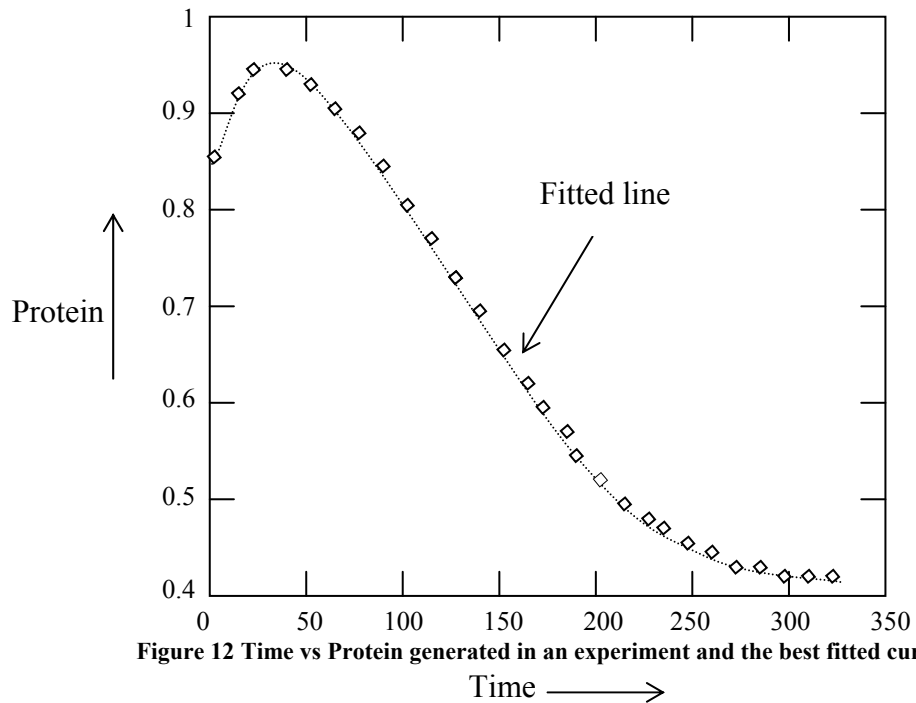

Figure 12 Time vs Protein generated in an experiment and the best fitted curve
in the Figure 12. The Figure 12 indicates that the fitted regression curve provides a very good relationship between the time and protein generated in that experiment. As before the prediction curve, that is, the curve (17) can be used easily for prediction purposes also. For example suppose we want to estimate the expected protein generation at the time 115 minutes after the experiment, then using (17), we obtain